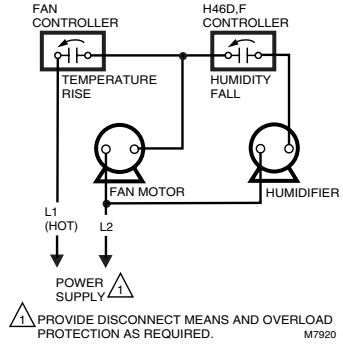

Fig. 4. Typical wiring diagram for H46D,F single-speed fan motor.
5. Pull the wires from the switch box through the opening in the adapter plate and connect to the H46 leadwires with the solderless connectors provided. See Fig. 4 through 6 for a typical hookup.